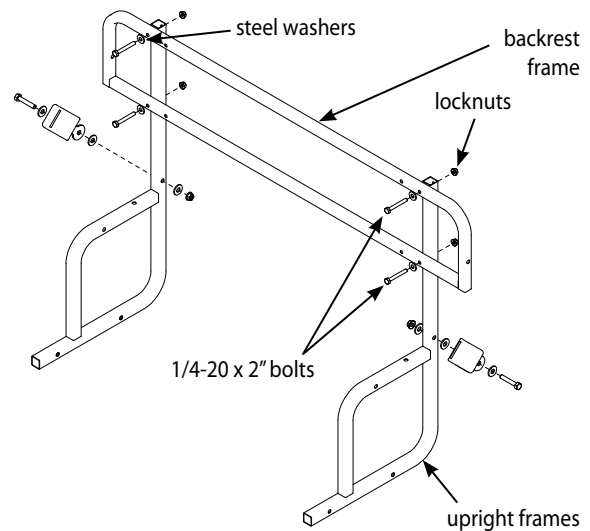

Figure 1A
2. Attach the backrest frame (A681) to the two upright frames using (4) provided 1/4-20 x 2" hex head bolts, 1/4" steel washers, and locknuts. **SEE FIGURE 1A.**